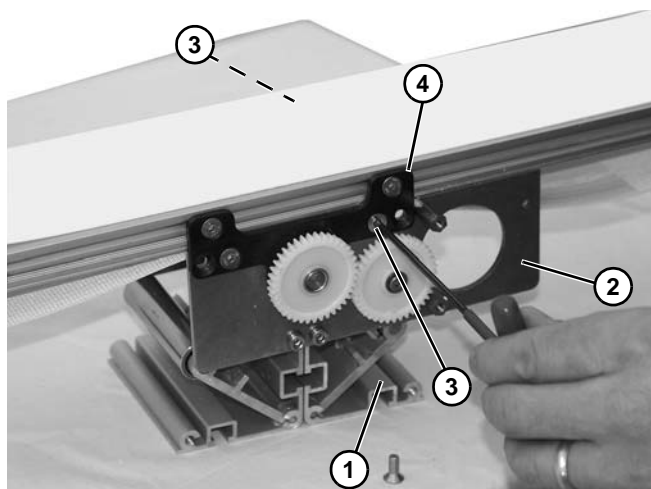

Figure 23
9. Rotate opposite end pinch drive guard (**Figure 23, item 1**) away from mid drive bracket (**Figure 23, item 2**).
10. Remove one screw (**Figure 23, item 3**) on each side securing pinch drive guard (**Figure 23, item 4**) to conveyor pinch plate (**Figure 23, item 2**).